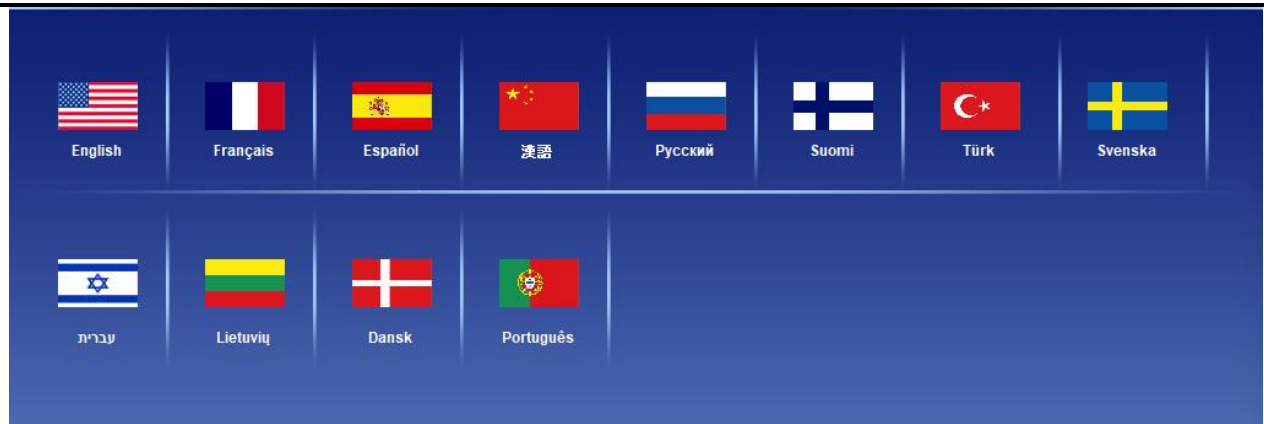
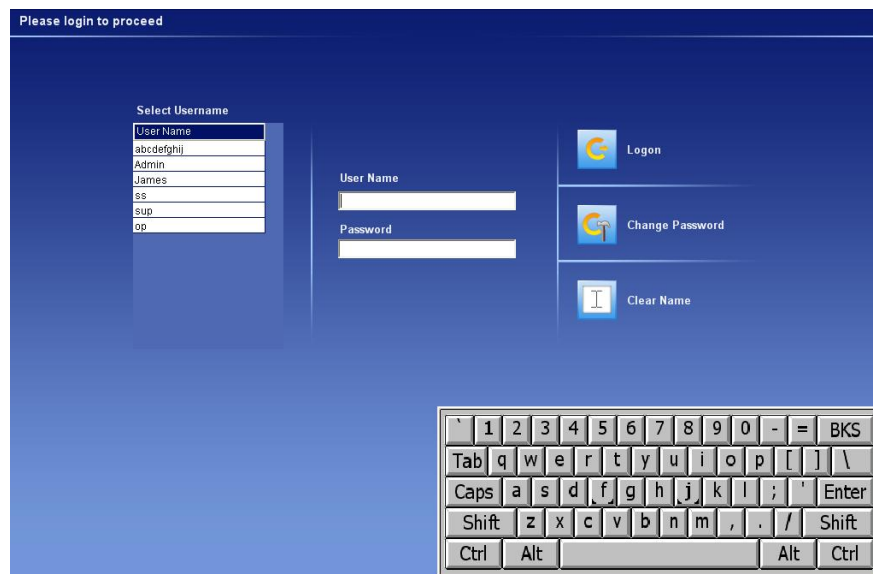

Figure 6 – Language Selection Screen
Figure 7 – User Login Screen
From the Windows® Desktop, select the SmartTouch™ icon (**STUV**) or the SmartTouch™ Multiple Machine icon (**STMM**) by double clicking or double tapping (touch screens only) it. The system will display the language selection screen (See **Figure 6 – Language Selection Screen**). Select the appropriate language flag. After selecting a language, the user login screen will come up (See **Figure 7 – User Login Screen**).
At the User Login screen (See **Figure 7 – User Login Screen**), select the *Admin* user in the **Select Username** field by tapping/clicking it once. The *Admin* user name will appear in the **User Name** field and the cursor will appear in the **Password** field.
1. At the login screen (See **Figure 7 – User Login Screen**), select the assigned user name in the **Select Username** box by tapping it once. The selected user name will appear in the **User Name** field and the cursor will appear in the **Password** field.
1. At the User Login screen (See **Figure 7 – User Login Screen**), select the assigned user name in the **Select Username** box by tapping it once. The selected user name will appear in the **User Name** field and the cursor will appear in the Password field.